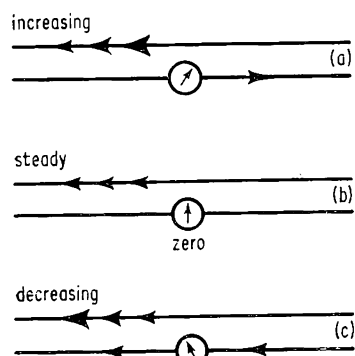
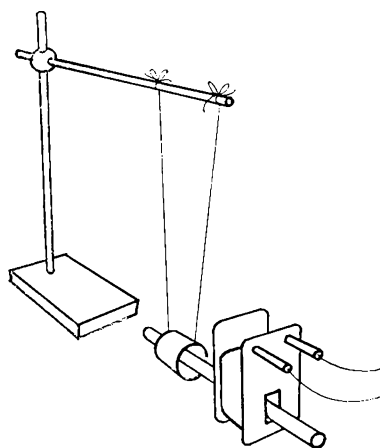

Fig. 132
Fig. 135
Considering the circuits illustrated in Fig. 132 we see that
- when the current in one wire is increasing (Fig. 132 (a)) there is an induced current in the other wire in the *opposite* direction;
- when the current in one wire is steady there is no current in the other wire (Fig. 132 (b));
- when the current in one wire is decreasing the induced current in the other wire is in the *same* direction (Fig. 132 (c)).
Connect a 250-turn coil₁₀ to a 6 V d.c. supply. Suspend the aluminium ring on a thread and pass an iron bar through the ring and the coil as shown in Fig. 135. What happens to the ring (a) when the switch is closed, (b) when the switch is opened? Can you explain this behaviour in terms of the induced currents in the ring? Hint: use Fig. 132.